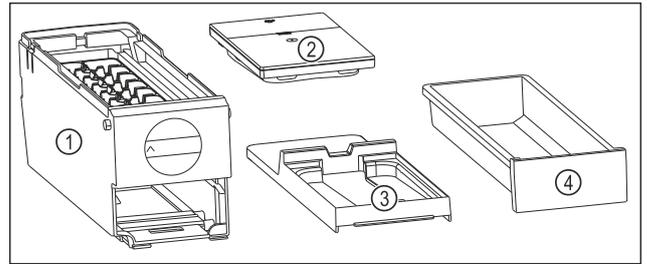

Fig. 114 Components of the EasyTwist-Ice
- ▷ EasyTwist-Ice is dismantled into four parts. (see Fig. 114)
- ▶ Only dismantle the EasyTwist-Ice into the components shown. (see Fig. 114)
- ▶ Clean the EasyTwist-Ice body Fig. 114 (1) as a whole.